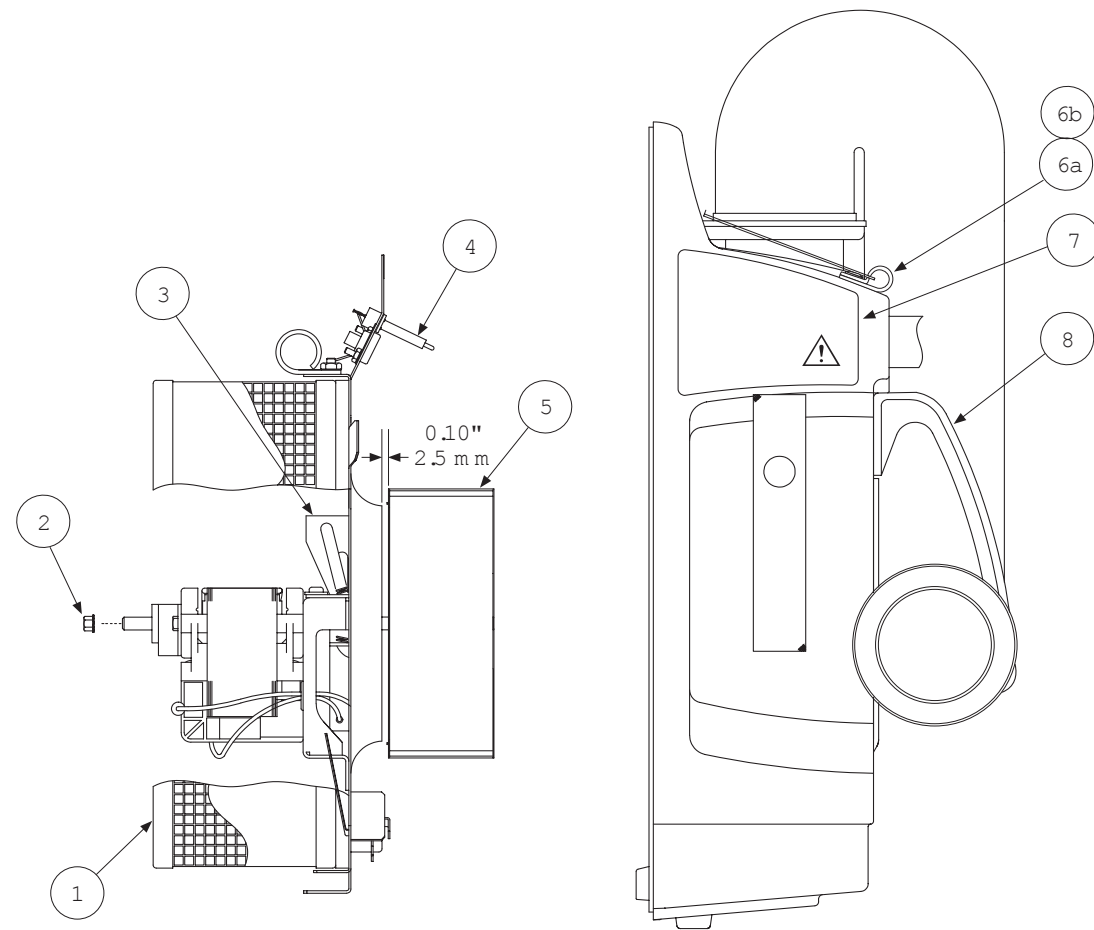

Figure 9 - TC3249 Detail Drawing
16. Reinstall the blower wheel, making sure there is 0.10" (2.5 mm) clearance between the wheel and the blower inlet ring (see fig. 9). NOTE: the hex screw must be aligned with the flat on the motor shaft.